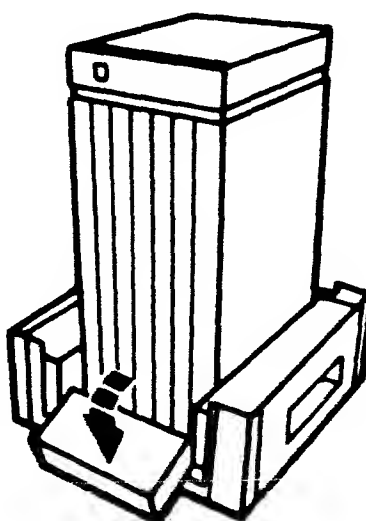

Figure 2-1. Front View of Processor
1. Unpack the box labeled Xerox 1186 Processor Unit by tearing the perforations marked on the box and lifting the top portion of the box off. Fold down the styrofoam packing insert at the front of the processor unit (Figure 2-1).